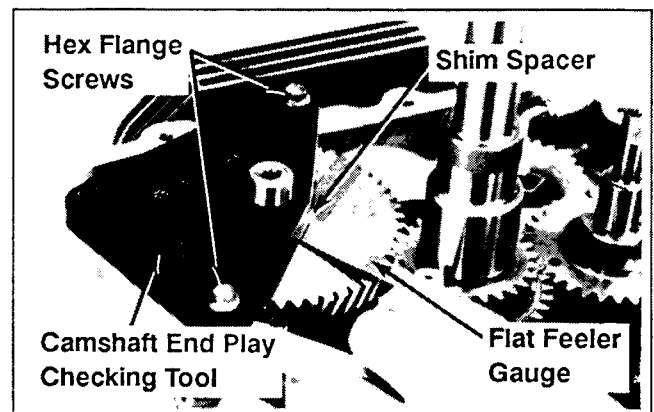

Figure 11-13. Checking Camshaft End Play.
2. Install the camshaft end play checking tool no. **KO-1031** to the crankcase and camshaft. Secure the tool to the crankcase with the hex flange screws provided. See Figure 11-13.